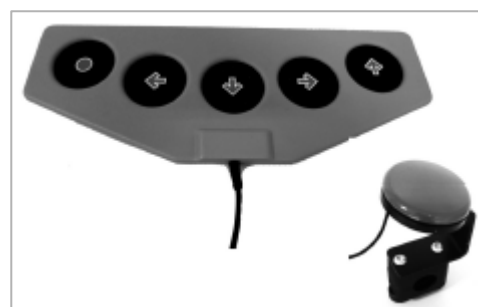

Figure 6
2.8 Five switch and user switch (Figure 6)